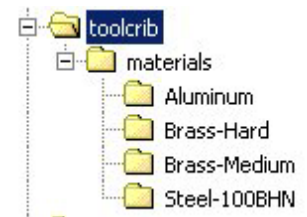

Figure 1: Folders
- 3) In the materials folder, create a folder for each material (bronze, copper, Play-Doh, etc.). See Figure 1.